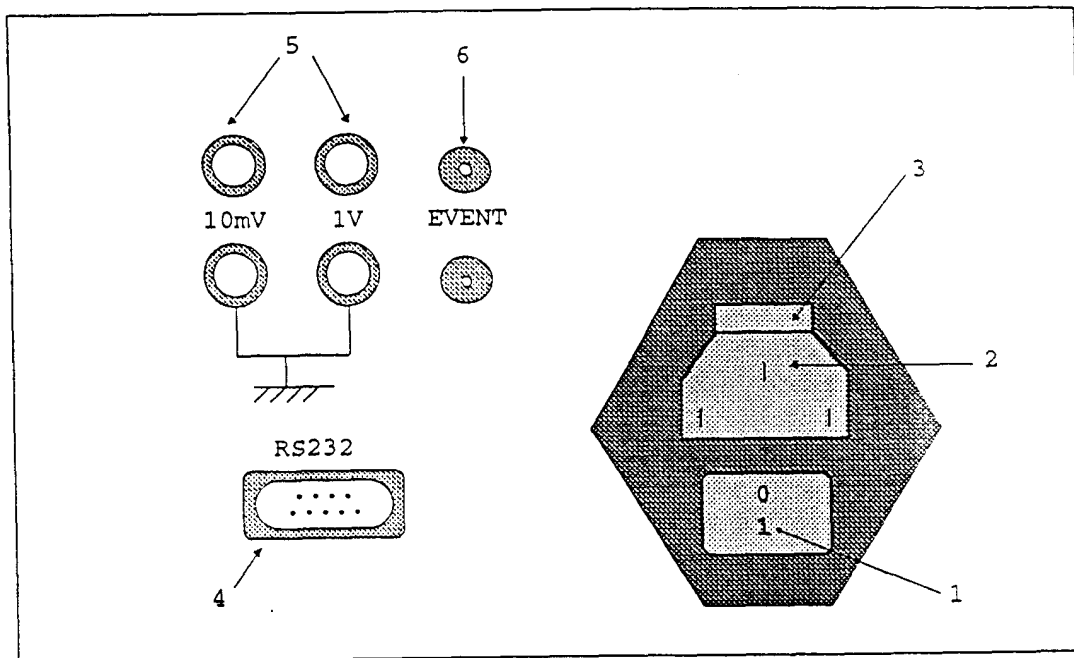

FIGURE 3
Rear panel (Fig 3 page 17)
6.1.2 Switch the power to ON (Fig 3)
### 7.1 Rear panel (fig 3)